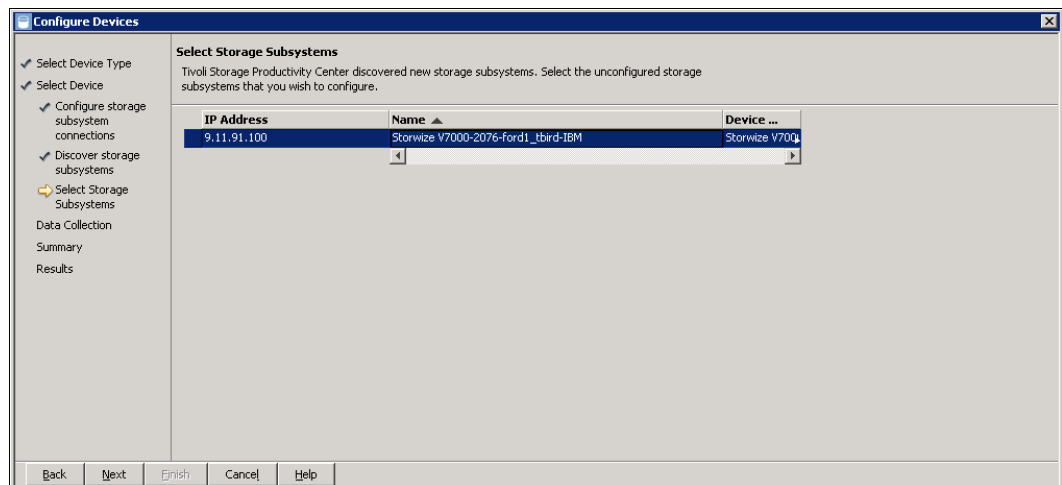

Figure 12-47 Select storage subsystem to connect
9. After the discovery, select the new storage subsystem that you want to add to the configuration (Figure 12-47).